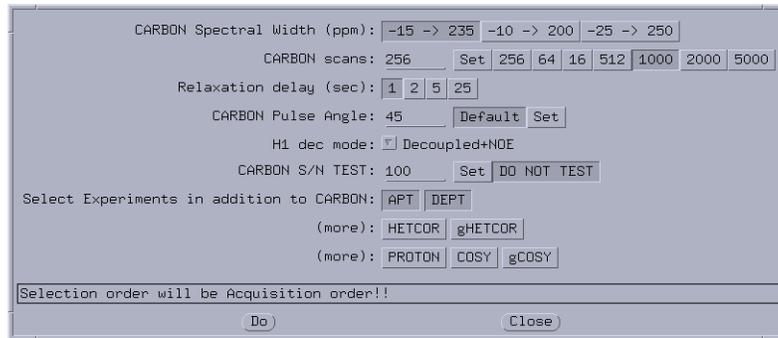

Figure 12. Experiment Window for 13C and 13C Detected Experiments
- Click** on the **Acquire** icon and set up the proton decoupled carbon observe experiment by selecting **1000 scans**, the **DO NOT TEST** option for **CARBON S/N TEST**, and accept the defaults for the remaining options (see **Figure 12**).